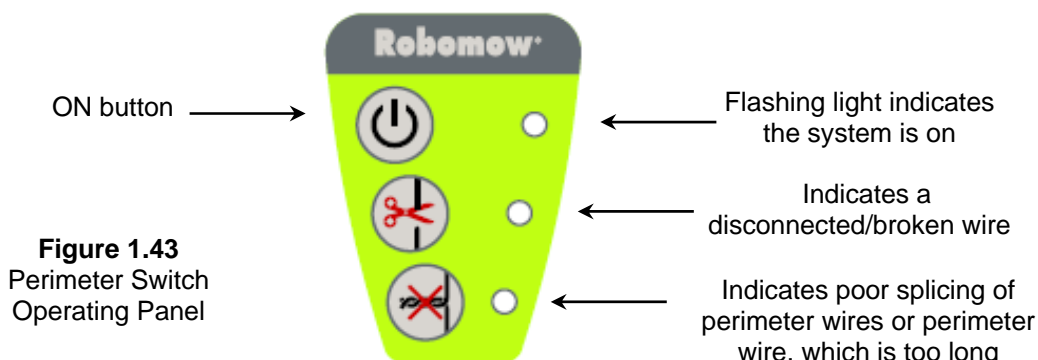

Figure 1.43
- Press the '**ON**' button. A small flashing green light next to the '**ON**' button indicates that the system is on and functioning properly. The Perimeter Switch also has indicators for a disconnected/broken perimeter wire and for poor wire splicing. Figure 1.43